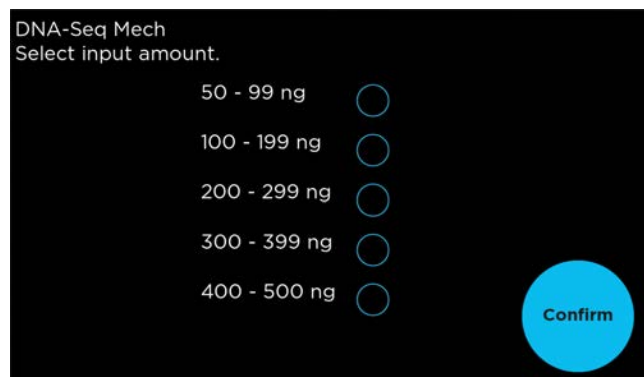

Figure 12. Input range definition.
6. Select the input range that corresponds to your sample input amount and touch “Confirm” (Figure 12).